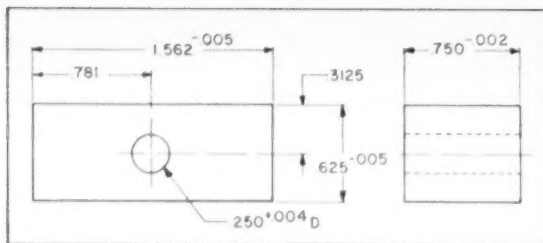
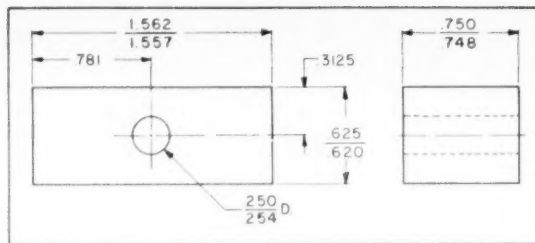

Fig. 4. As here shown, dimensions should be arranged to give required sizes and distances directly without the need for additional calculation.
Fig. 5. The limiting dimensions shown in Fig. 4 can also be expressed as indicated here. The dimension lines should not pass through dimension figures.
**Dimensions for Conditions of Size**—As shown in Fig. 4, dimensions are to be arranged to give required dimensions directly, thus avoiding the necessity to calculate, scale, or assume anything
**Limits**—The limiting dimensions shown in Fig. 5 give the same information as the dimensions and tolerances in Fig. 4. The dimension line must not pass through a dimension figure, nor should a dimension figure be placed on the outline of the part, or on center lines.